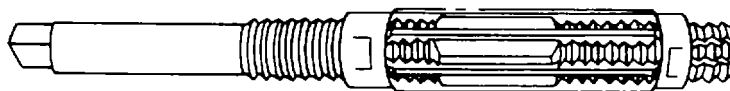

Figure 4-92. Adjustable Reamer
(1) Adjustable, inserted blade, straight fluted (hand), per GGG-R-180, type III, class 1, grade A. These reamers are fitted with removable cutting blades, which are adjustable for reaming holes of any size within the range for which the reamer was designed. These reamers have straight, round shanks with square ends and contain slots for holding the blades. The reamer assembly is capable of reaming round, straight, and smooth holes. This reamer is shown in figure 4-92.